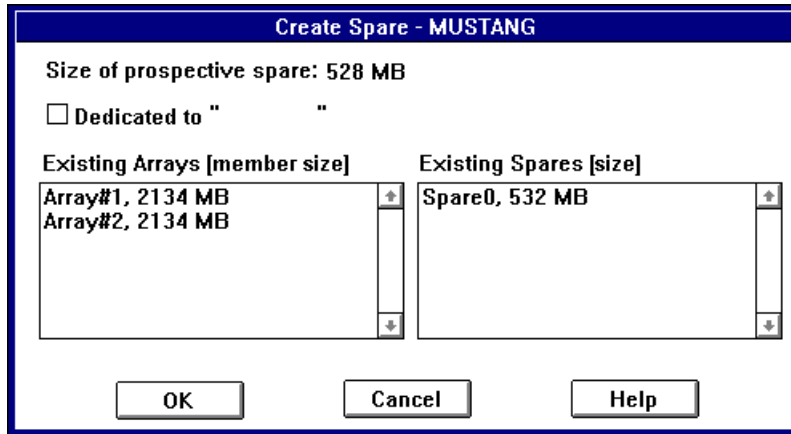

Figure 3-5. Create Spare Dialog Box
- 3 Click **Create Spare...** The Create Spare dialog box appears, as shown in Figure 3-5. A list of already-defined spares appears on the right. Names of existing arrays appear on the left only if